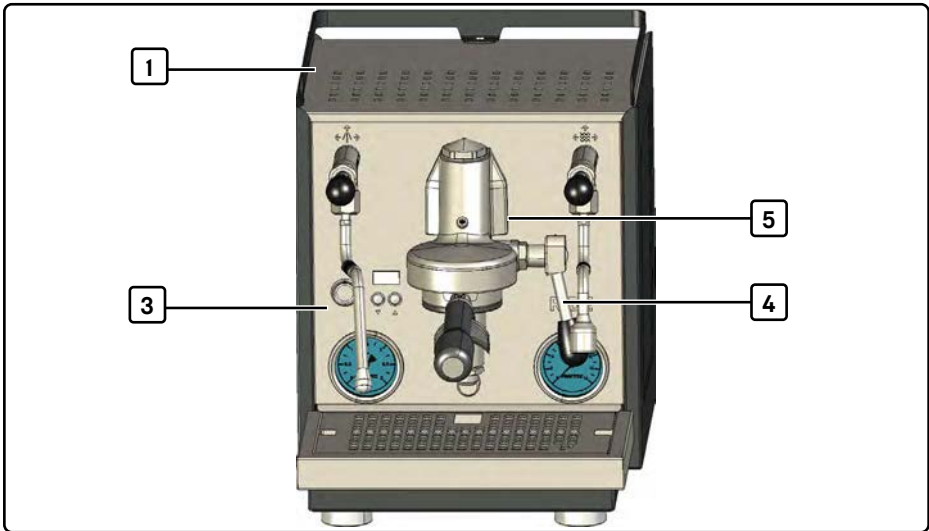

Fig. 5 Figure with portafilter installed
1. Remove the water tank [1, Fig. 5] and clean it thoroughly (see Chapter 11.5, „Cleaning the water tank“).
4. Press the on/off button [2, Fig. 5].
1. Place a receptacle under the brew group [5, Fig. 5]. The opening of the receptacle should be at least as big as the brew group.
2. Move the brew lever [6, Fig. 5] into the drawing position (see Chapter 5.2.3, „Operating levers“).